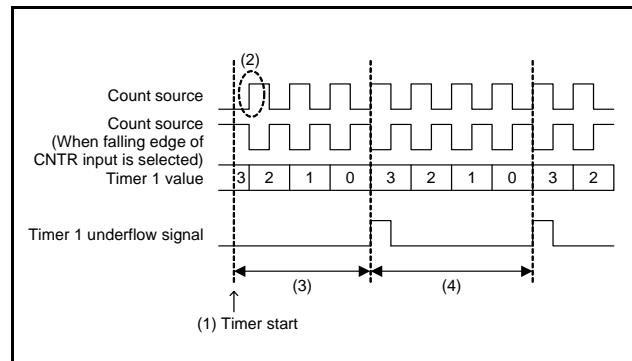

Fig 69. Timer count start timing and count time when operation starts (1)
(18) Prescaler, timer 1 count start timing and count time when operation starts
Count starts from the first rising edge of the count source (2) in Figure 69 after prescaler and timer operations start (1) in Figure 69.
Time to first underflow (3) in Figure 69 is shorter (for up to 1 period of the count source) than time among next underflow (4) in Figure 69 by the timing to start the timer and count source operations after count starts.